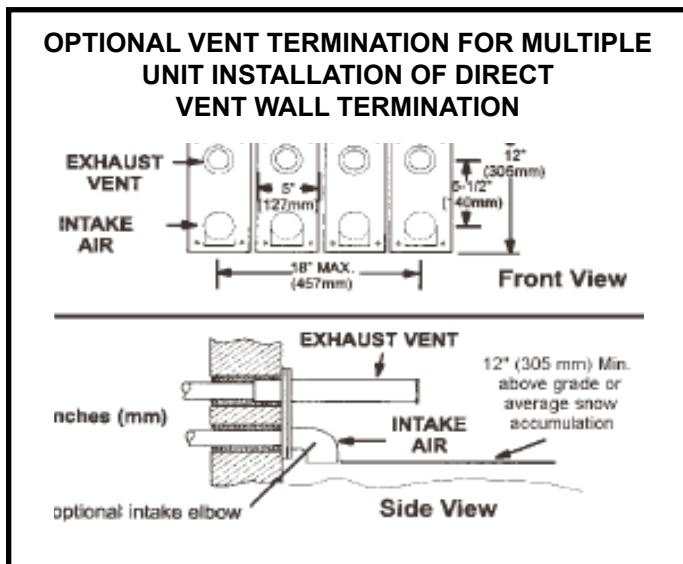

Figure 42
- A multiple furnace installation may use a group of up to four terminations assembled together horizontally, as shown in Figure 42.